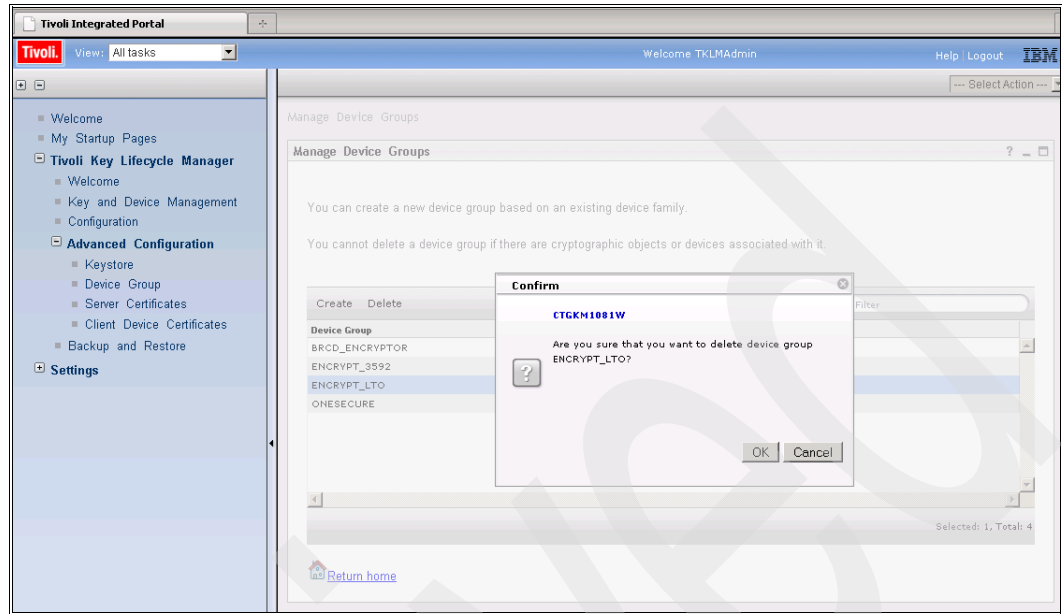

Figure 9-30 Delete device group confirmation warning
4. A confirmation window prompts you to accept or reject the deletion (Figure 9-30). Click **OK** to delete the device group; click **Cancel** to keep the device group.